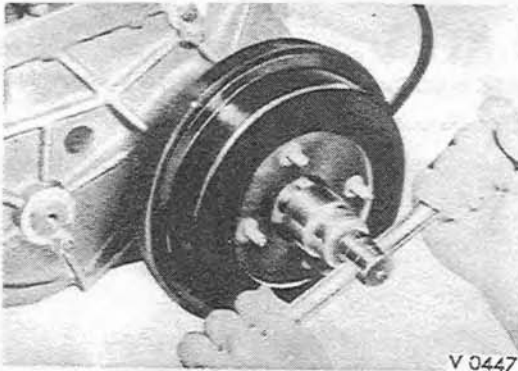

Fig. 3-23. Removing the center brake drum from the transfer drive shaft.
- Remove the cotter pin, hexagon nut and washer that secure the center brake drum to the transfer drive shaft. (Fig. 3-23)